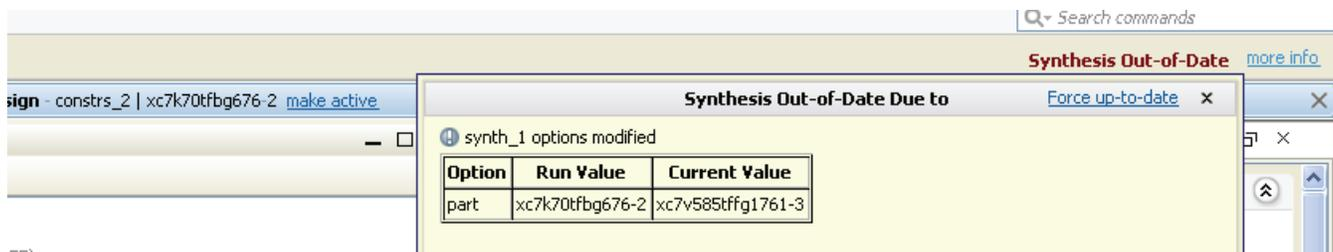

Figure 2-15: Design Out-of-Date and Reload Banner
As source files, netlists, or implementation results are updated, an “out-of-date” message is displayed at the right side of the Design View banner of an open Synthesized Design or Implemented Design to indicate that the run is out of date, as shown in Figure 2-15. Click the **more info** link to display what aspects of the design are out of date.
- Force up-to-date:** Select the **Force up-to-date** link in the “Out-of-Date Due to” window that is opened when you click **more info** as shown in Figure 2-15.